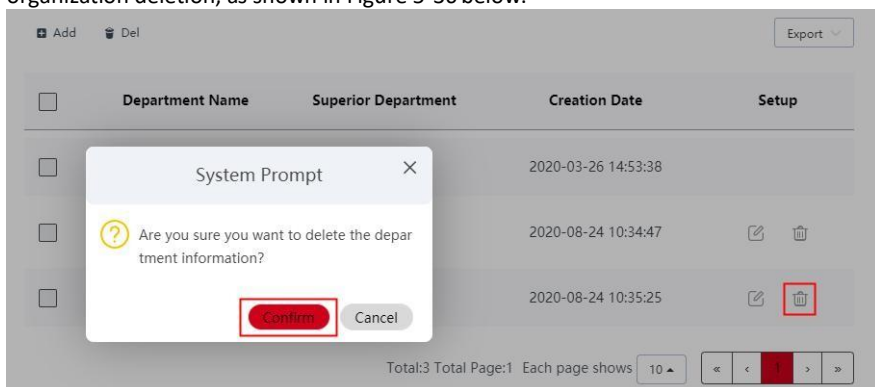

Figure 5-36
Step 2: Click the "  Confirm " of the organization you want to delete to complete the organization deletion, as shown in Figure 5-36 below.